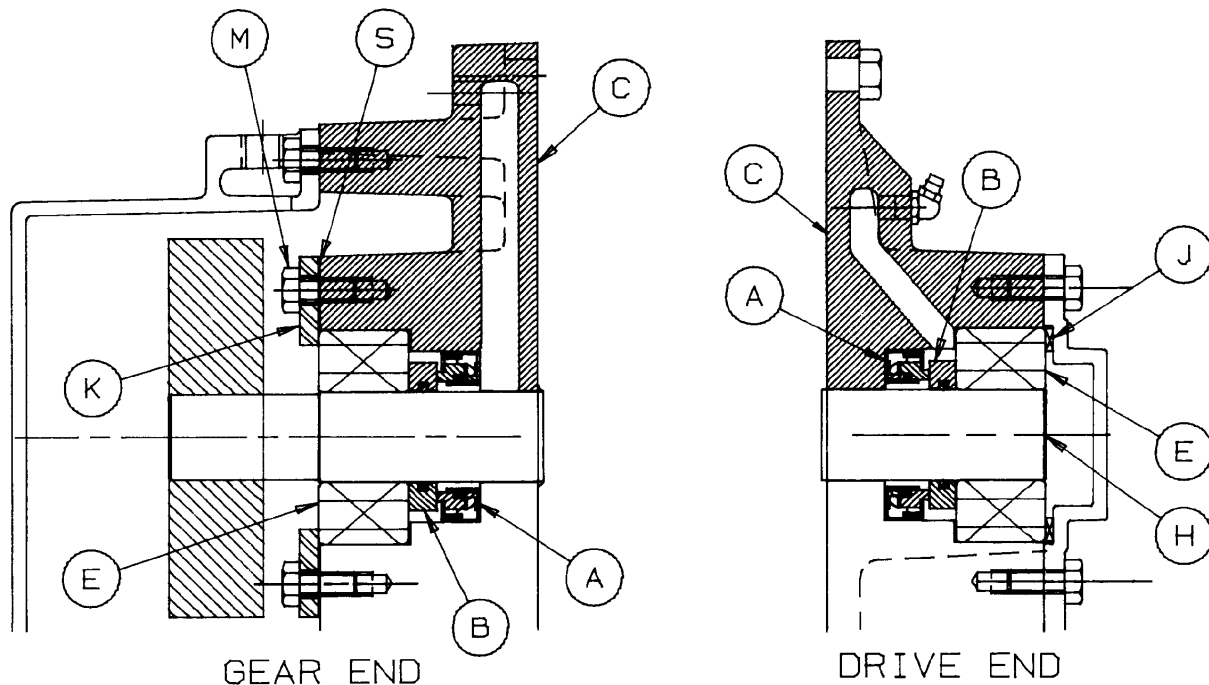

FIGURE 18
- B. Refer to FIGURE 18. Install mechanical seal (A) into the headplate bore (C) using a press and the correct driver shown on page 12. Drive the seal securely on to its seat.
- A. Refer to FIGURE 18, page 16. Lightly coat the impeller shaft (H) and the inside diameter of the mating ring (B) with assembly lubricant.
- B. Install the mating ring (B) on the shaft only far enough to get the bearing (E) started on the shaft.
- C. Lightly lubricate the bearing inner race (E) with a light oil or grease.
Refer to FIGURE 18, page 16. The gear end bearings are held in position by the force created by the wavy spring (J) on the drive end and the bearing retainer (K)